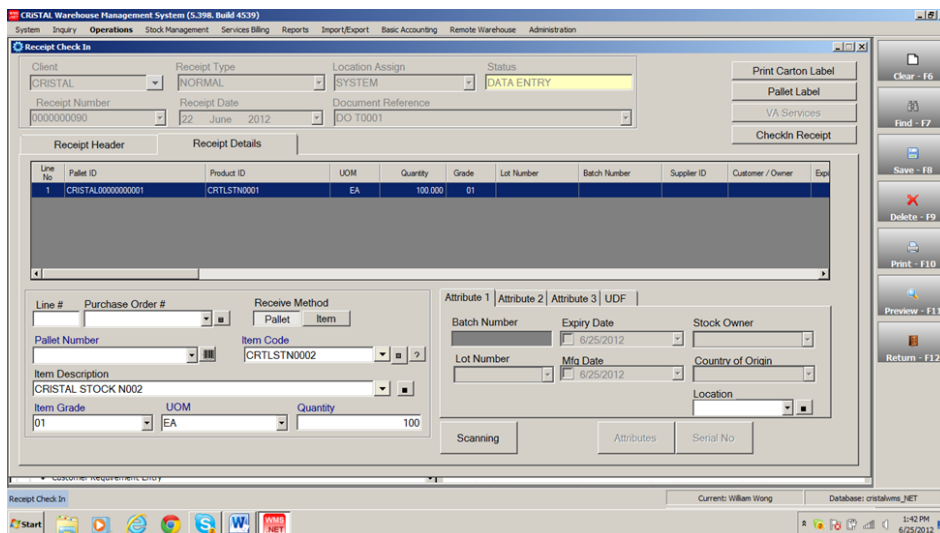

Fig.2
4.1.1.2. Receipt Details (Fig.2)